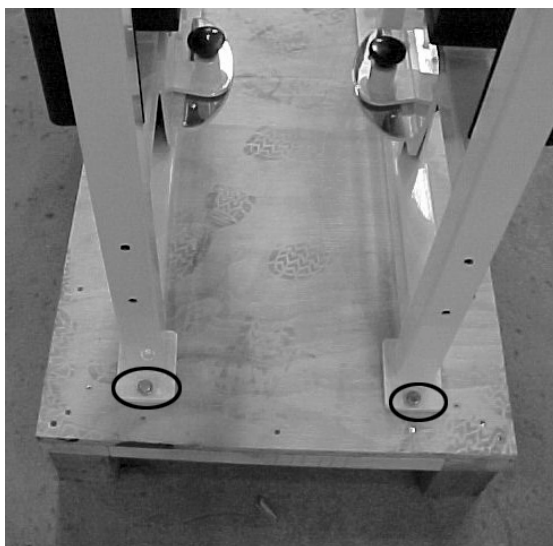

Figure 2. Sides lagged down.
7. Check to see that the pulley adjustment mechanism works correctly by lifting the handle (see Figure 2) and placing it into each of the two holes. Then attach a handle to the cable and lift the weight stack in each of the variable resistance positions.